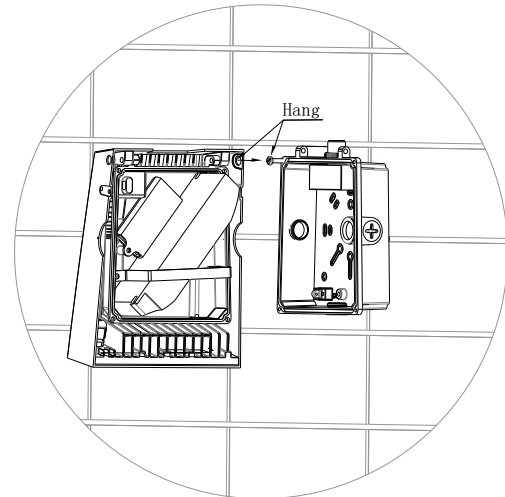

Fig.2
3. Hang the light body on the bolt of the housing to make convenient for single electric wire connection (Fig2)